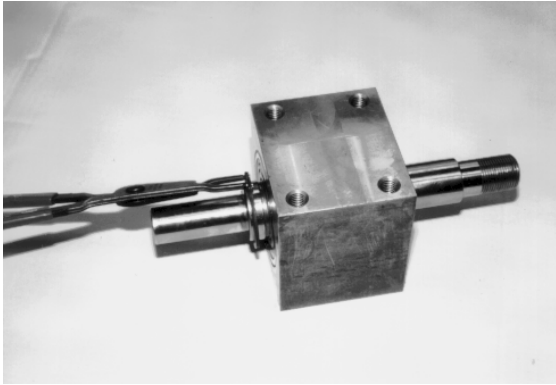

FIGURE 40
6) Position the bearing block/arbor shaft assembly on a suitable work surface. Use the snap ring pliers to remove the snap ring. FIGURE 40.